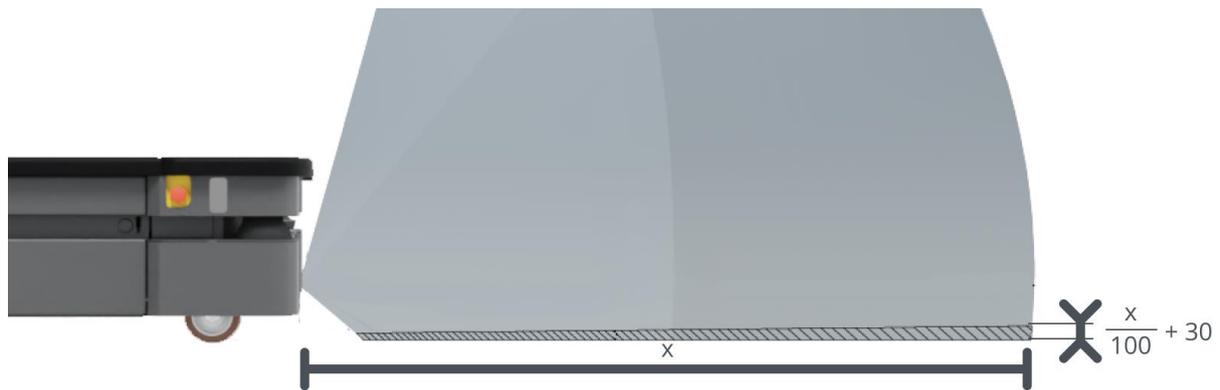

Figure 9.9. Objects below 30 mm from the ground are not detected by the camera. This value increases by 10 mm per meter from the robot.
- From the floor plane, the robot does not detect objects below 30 mm from the ground. This value increases by 10 mm per meter from the robot—see **Figure 9.9**.